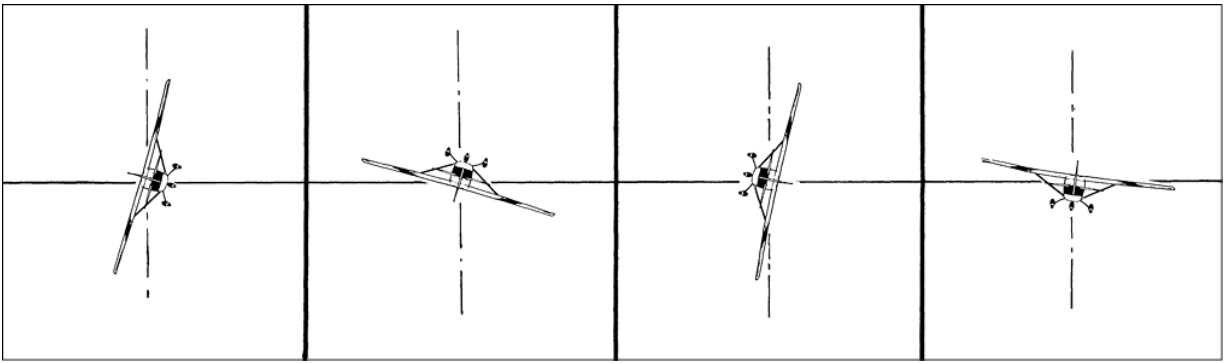

Figure 6-13. Typical pattern for a trainee's first few four-point aileron rolls. (From *The Flight Instructor's Manual*)
1. Not stopping precisely at the points. Usually the first point is less than 90° of bank, and the other points are also behind (Figure 6-13).